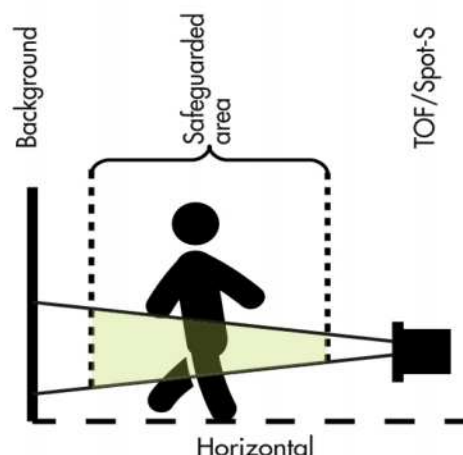
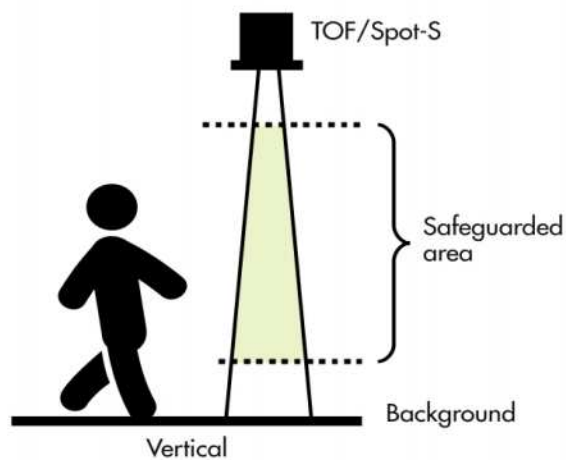

Figure 3: Horizontal safeguarding with the TOF/Spot-S
Figure 5: Vertical safeguarding with the TOF/Spot-S
- In the examples (Figure 3 to Figure 5) the sensor recognizes the background. A background is needed to successfully test the sensor with the test input. If the TOF/Spot-S doesn't recognize a background within the maximal range, the output will be switched to OBJECT DETECTED.